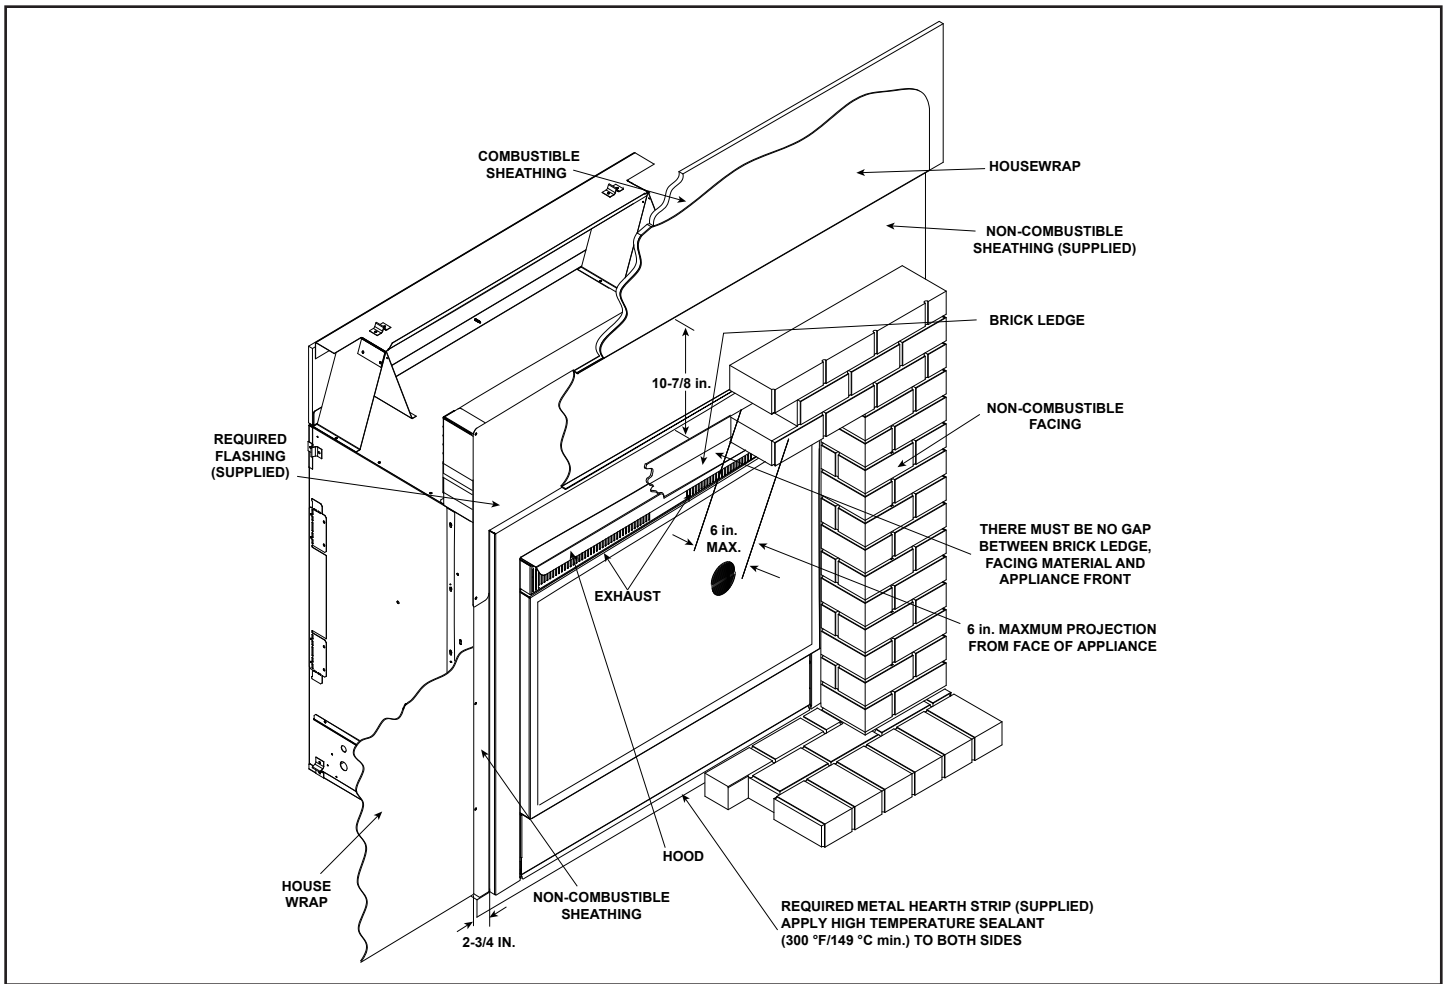

Figure 8.11 Exterior View
- Seal gaps between the finished wall and appliance top and sides using a 300 °F minimum sealant. Refer to Figure 8.11.
May install non-combustible materials to cover gap between facing material and appliance (see Figure 8.11).